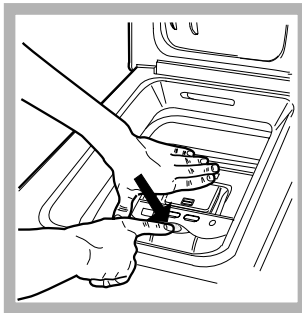

Fig. 2
### B) Then open the drum using both hands as shown in Fig. 2:
- press the button indicated by the arrow in Fig. 2 lightly downwards, with one hand firmly resting on the doors to prevent them from suddenly opening and hurting your fingers;